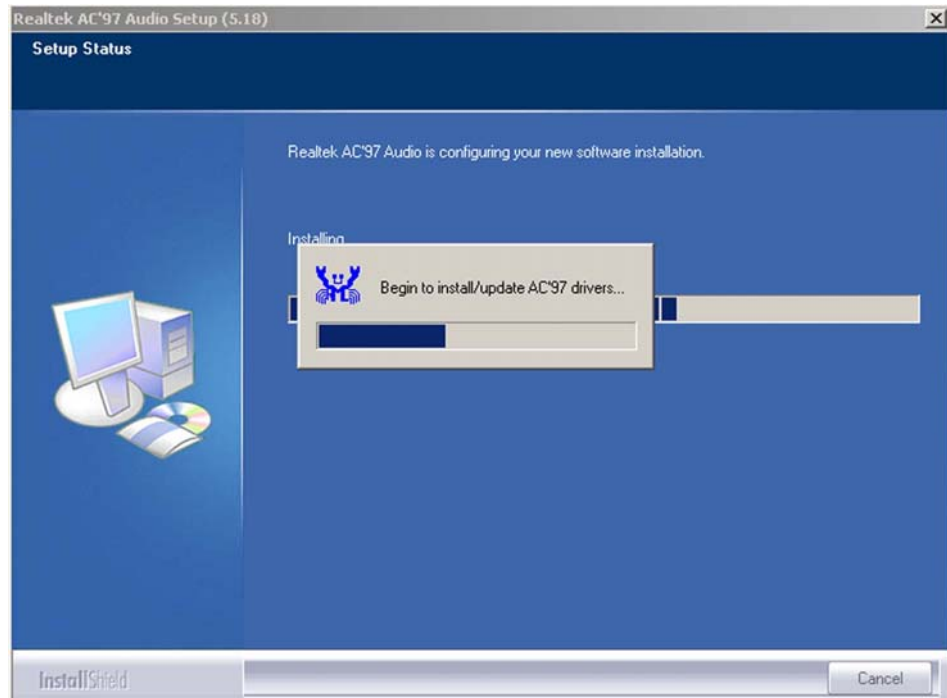

Figure 6-14: Audio Driver Installation Begins
Step 6: At this stage the clicking the “YES” button in **Figure 6-13** appears, the installation of the driver begins. See **Figure 6-14**.